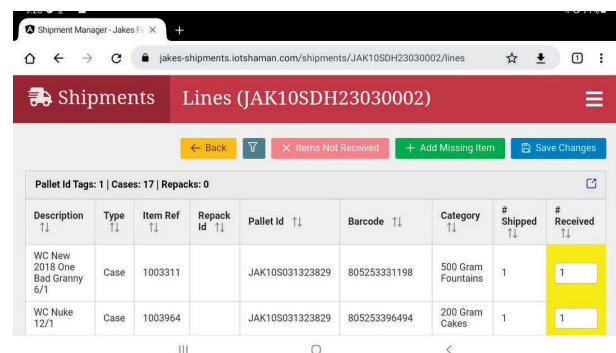

Figure 21
4. A list of all the items shipped will appear at this point (At this time, the received quantities will be highlighted in yellow because no changes have been made or saved) (Figure 21).